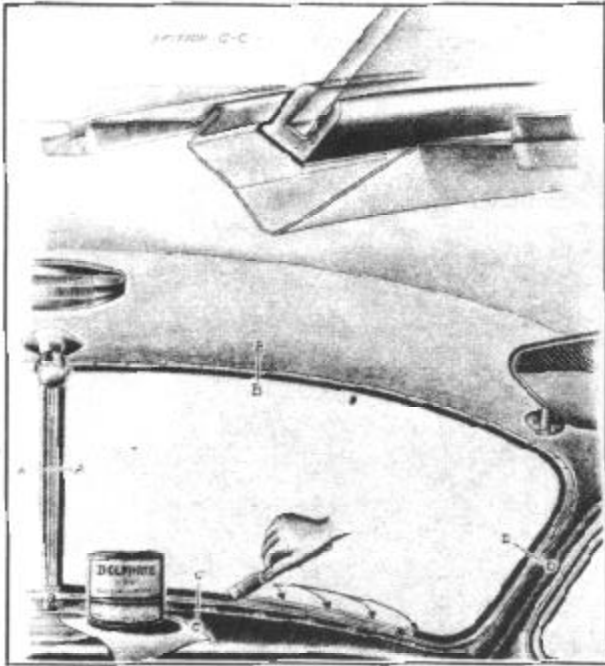

FIGURE 43
7. Apply a heavy bead of windshield sealer completely around windshield opening including the windshield center bar. Sufficient sealer should be used around the windshield weatherstrip when the windshield and weatherstrip is drawn into place. Figure 43, shows cross-section (C-C) of the windshield opening and the final sealer film after the windshield is installed. Sealer must be uniform.